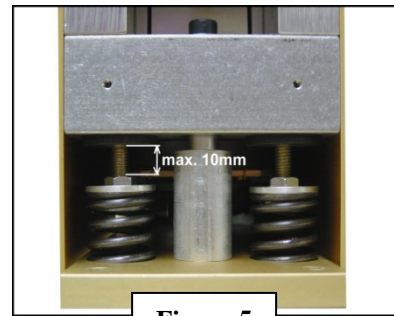

Figure 5
E. Do not turn the nuts too far or you may damage the system. Under no circumstances should there be over 10 mm of exposed threads (see Figure 5).